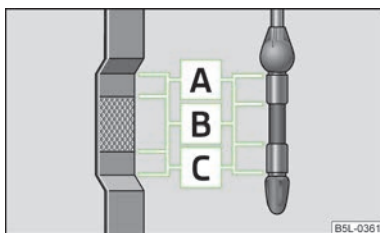

Fig. 134
The dipstick indicates the level of oil in the engine » Fig. 134.
- The oil level must on no account extend beyond the range **A** » Fig. 134. Risk of damaging the exhaust system!